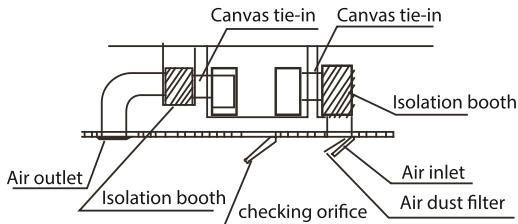

**Fig. 3.9**
9. Mount the indoor unit onto the hanging screw bolts with a block. Position the indoor unit flat using a level indicator to prevent leaks. (See Fig. 3.9).